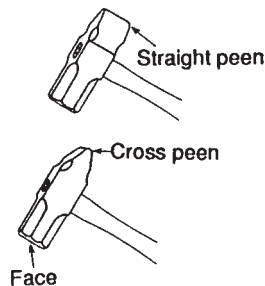

Figure 21.6
**Straight or crosspeen sledges** — head weights are from 2 to 16 lbs. and handle lengths from 14 to 36 inches. These peens are used for shaping (fullering) and bending metal (Figure 21.6).